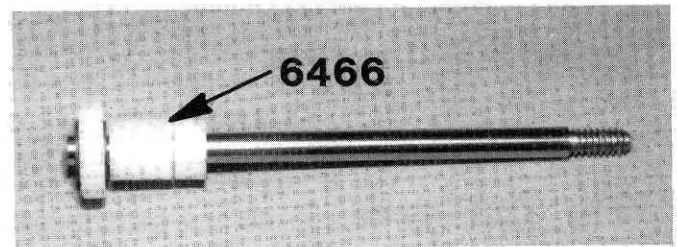

Fig. 99
□ **Fig. 99** In bag 6-9 will be six #6466 nylon spacers. Slip three of these onto each of the long shafts, all the way up to the piston. These spacers are not used on the front shocks.